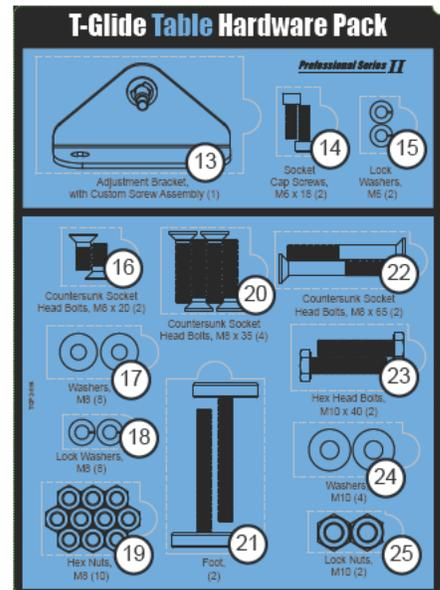

Fig. 15
7. Once the rails are in place you can mount the extension table to the rails. The hardware needed to mount the extension table to the rails is in the T-Glide Table Hardware Pack (See Fig. 15).